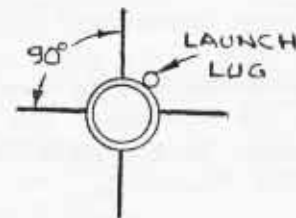

FIGURE 2
2. Cut four tube spacers from either balsa or cardboard. The spacers are 5 1/2" x 1 1/2". Grain should run along the short dimension. Glue these spacers to the HT-50 as shown in Figure 2. They should be flush with the end of the tube. Glue on a launch lug as shown.